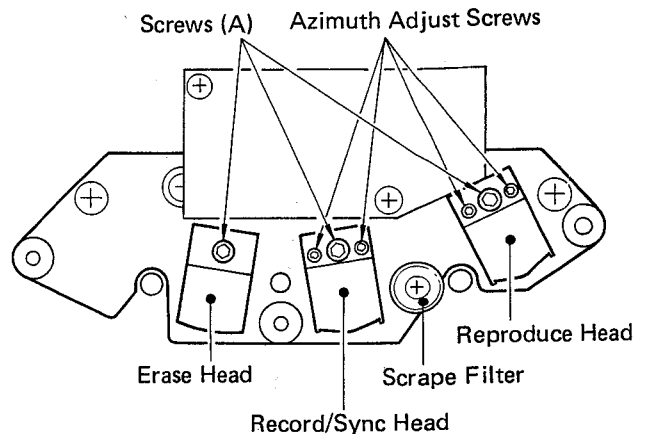

Fig. 7-27. Head Adjustment Screws
2. While observing the VU meters, temporarily increase the back tension to the left reel by lightly applying pressure by hand. If sufficient contact pressure is applied to the head while the tape is running, no change will be noticed on the meter when the back tension is increased. However, if insufficient pressure is applied to the head, the deflection needle will show increased deflection due to contact pressure caused by the back tension. This method will help determine whether head contact is properly adjusted or not. To adjust, loosen the retaining screw (A), that'll be the center screw at the rear of the head as shown in Fig. 7-27. Then, change the direction of the head for proper alignment.